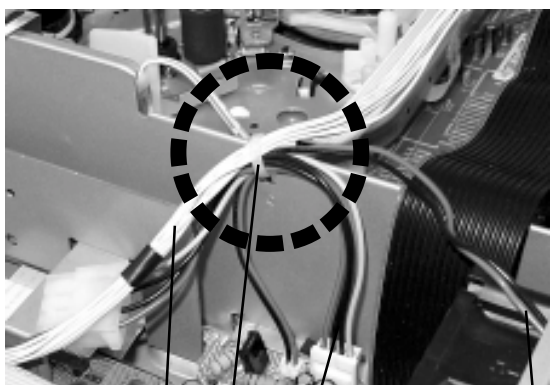

Fig. 1
1. Bind the CD7304, CD504 and Fan motor cable at the Fig. 1 position and fix them.
2. Pass the Fan motor cable through before the CD502 like the Fig. 1.